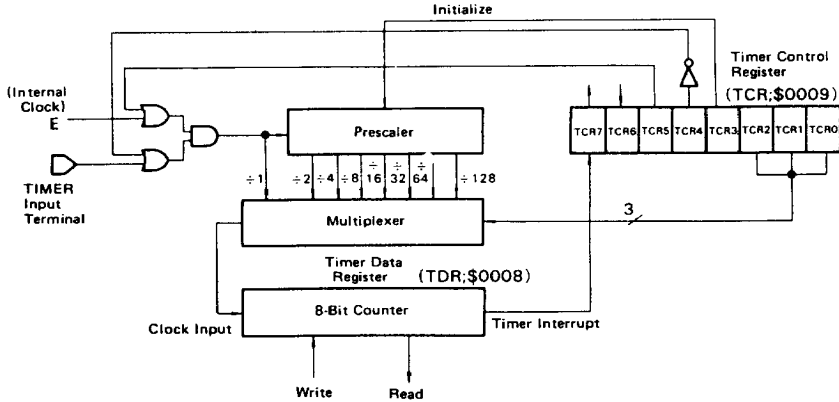

Figure 11 Timer Block Diagram
Fig. 11 contains a block diagram of the MCU timer. The 8-bit counter may be loaded under program control and is decremented towards zero by the clock input. When the counter, that is, the timer data register (TDR) reaches zero, the timer interrupt request bit (bit 7) of the timer control register is set. When recognizing the interrupt request, the MCU proceeds to store the current CPU state on the stack, and then fetches the timer vector address from locations \$1FF8 and \$1FF9 (or \$1FF6 and \$1FF7 if in the wait mode) in order to execute the interrupt service routine. The timer interrupt can be masked by setting the interrupt mask bit (bit 6) of the timer control register. The mask bit (I) of the condition code register can also disable the timer interrupt.